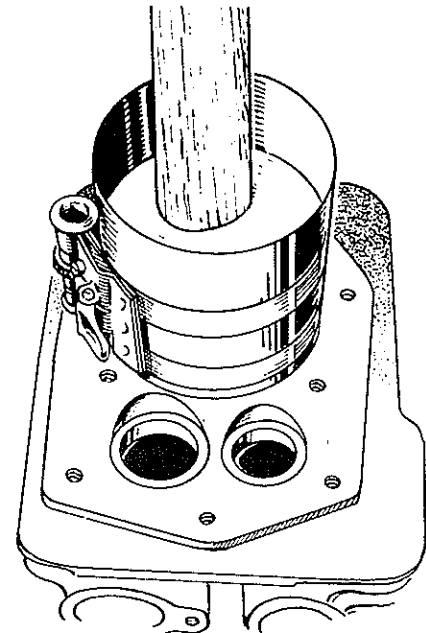

FIGURE 16-12. INSTALLING PISTON
2. Lubricate number one piston assembly and inside of cylinder. Compress rings with a ring compressor as shown in Figure 16-12. Install bearing insert in rod.
4. Tap piston down into bore with handle end of a hammer until connecting rod is seated on journal, Figure 16-12. Install the bearing cap on the rod with the witness marks and stamped reference numbers matching the marks on the rod. Install and tighten the bolts to the specified torques.